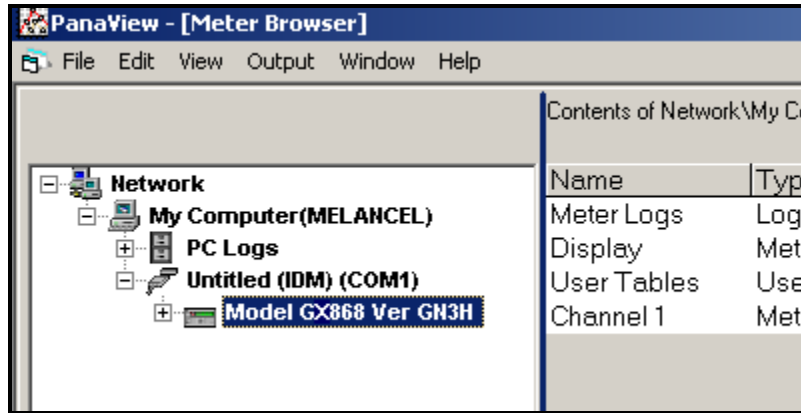

Figure 23: The Updated Network Tree
If the initialization is successful, the Meter Browser shows a listing similar to Figure 23 below.
1. Highlight the meter (as shown in Figure 23 on page 100).